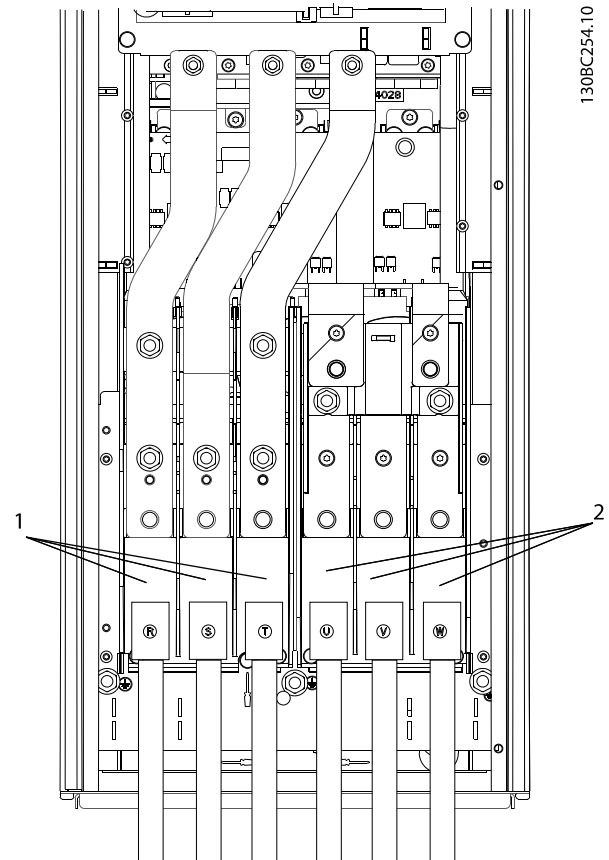

Figure 2.15 Connecting to AC Line Power
- Connect 3-phase AC input power wiring to terminals L1, L2, and L3 (see Figure 2.15)